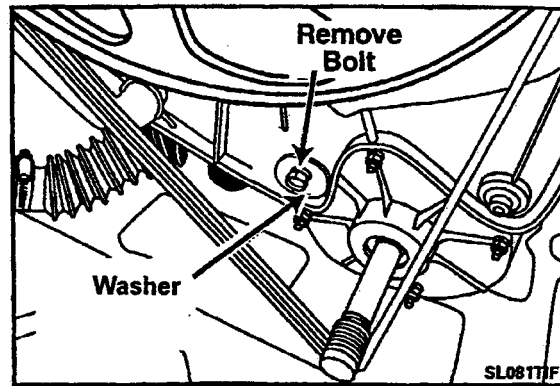

Figure 2-52
3. From the rear, locate and remove the motor mounting bolt securing the washer to the outer tub (Figure 2-52).